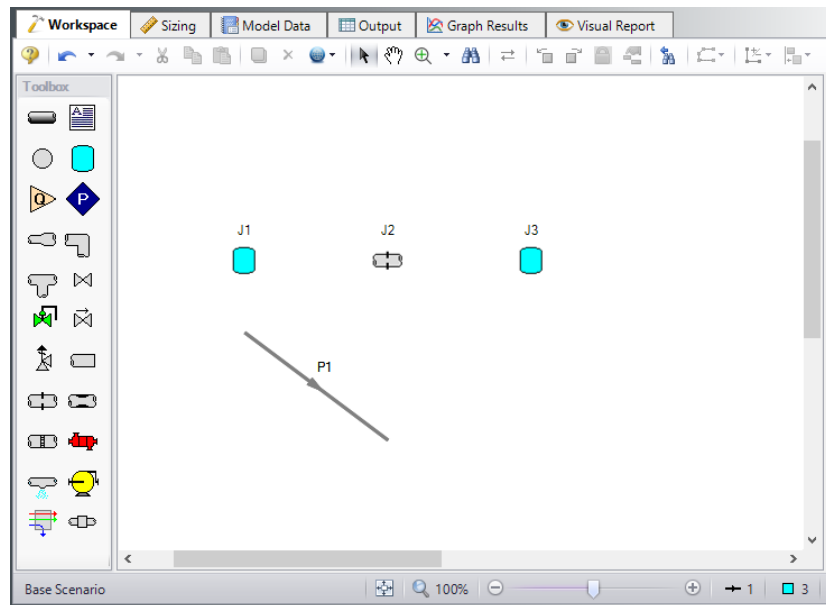

Figure 2.4c Walk through model with first pipe drawn
- **To create a pipe**, click the Pipe Drawing Tool icon on the Toolbox. The pointer will change to a crosshair when you move it over the Workspace. Draw a pipe below the junctions, similar to that shown in Figure 2.4c.